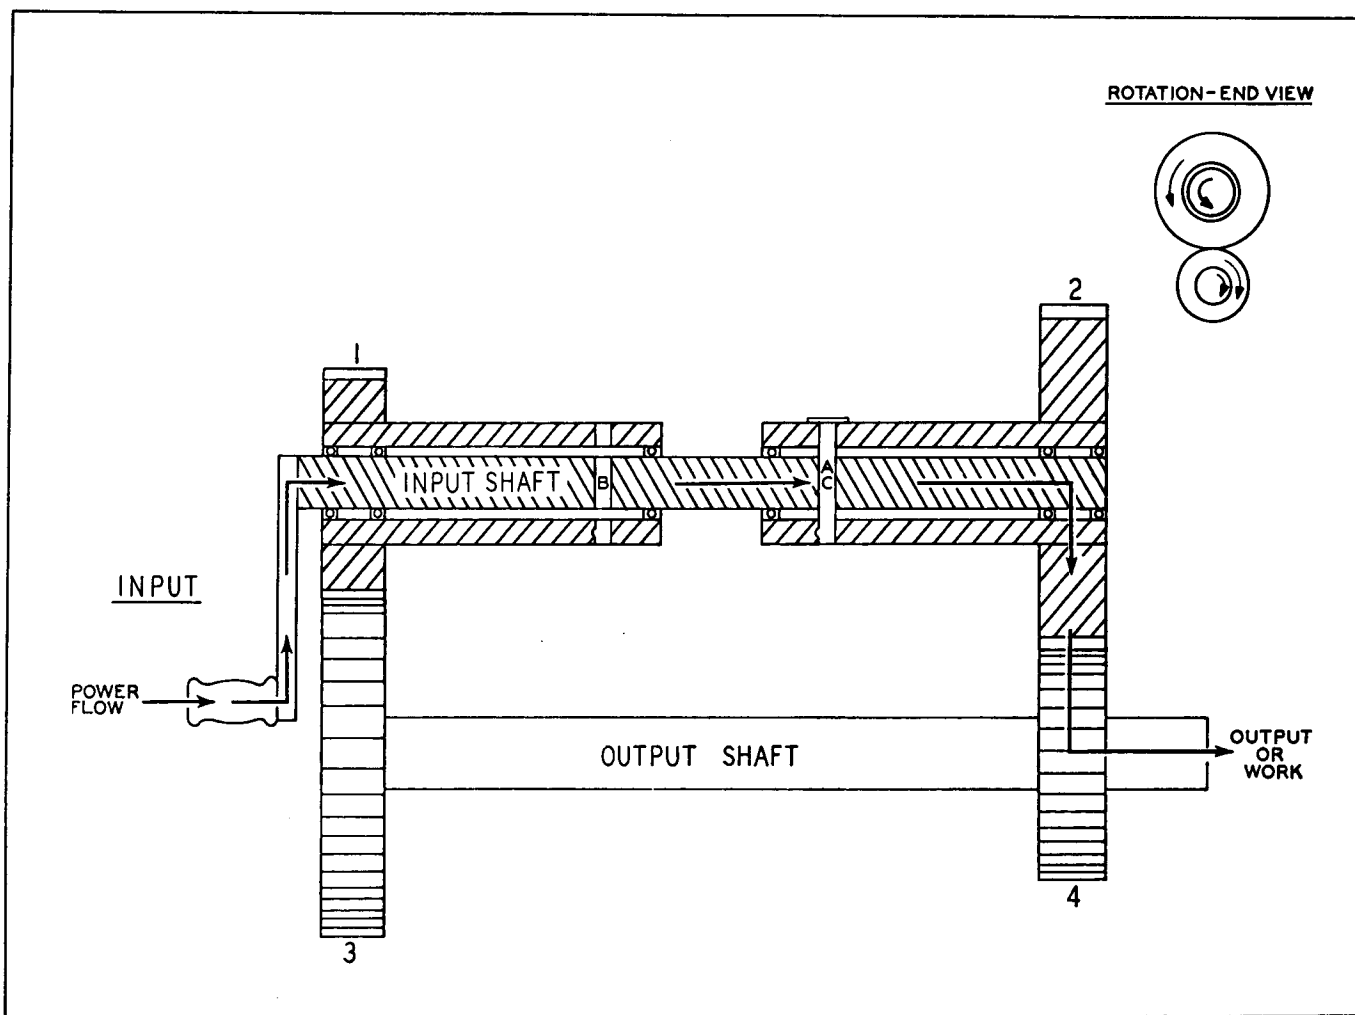

Figure 1-16
If we remove the pin (A) from the sleeve of the low driving gear (1) and place it in the hole (C) provided in the sleeve of the large driving gear (2), the rotating input shaft will drive the output shaft through the small driven gear (4). The driving gear (2) is larger than the driven gear (4), therefore the transmission is in high range (Fig. 1-16).